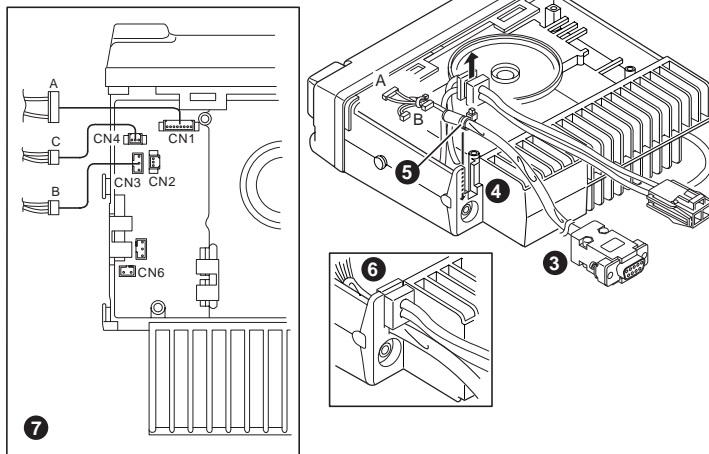

Fig. 3
- Insert the KCT-31 cable (3) into the chassis (4). The wire retaining band (5) must be inside the chassis.
- Replace the DC cable bushing (6).
- Connect the KCT-31 to the TX-RX unit (A/2) as shown in figure 3 (7).